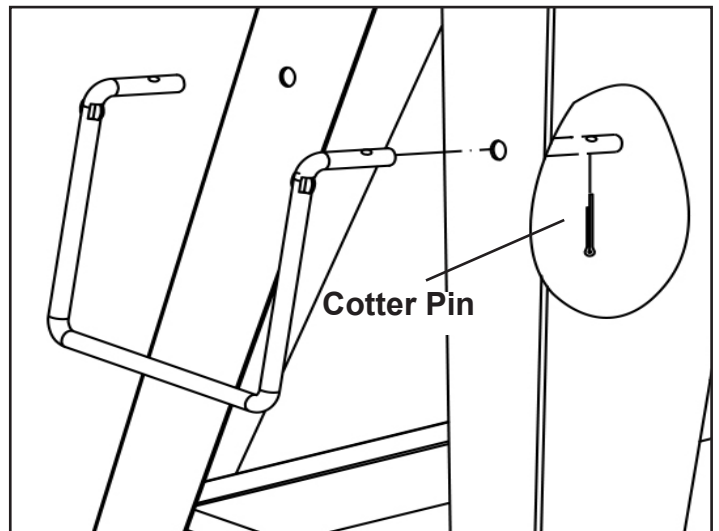

FIGURE 5
- On the opposite stand legs, insert the handle into the pre-drilled holes and secure it with cotter pins. SEE Figure 5.